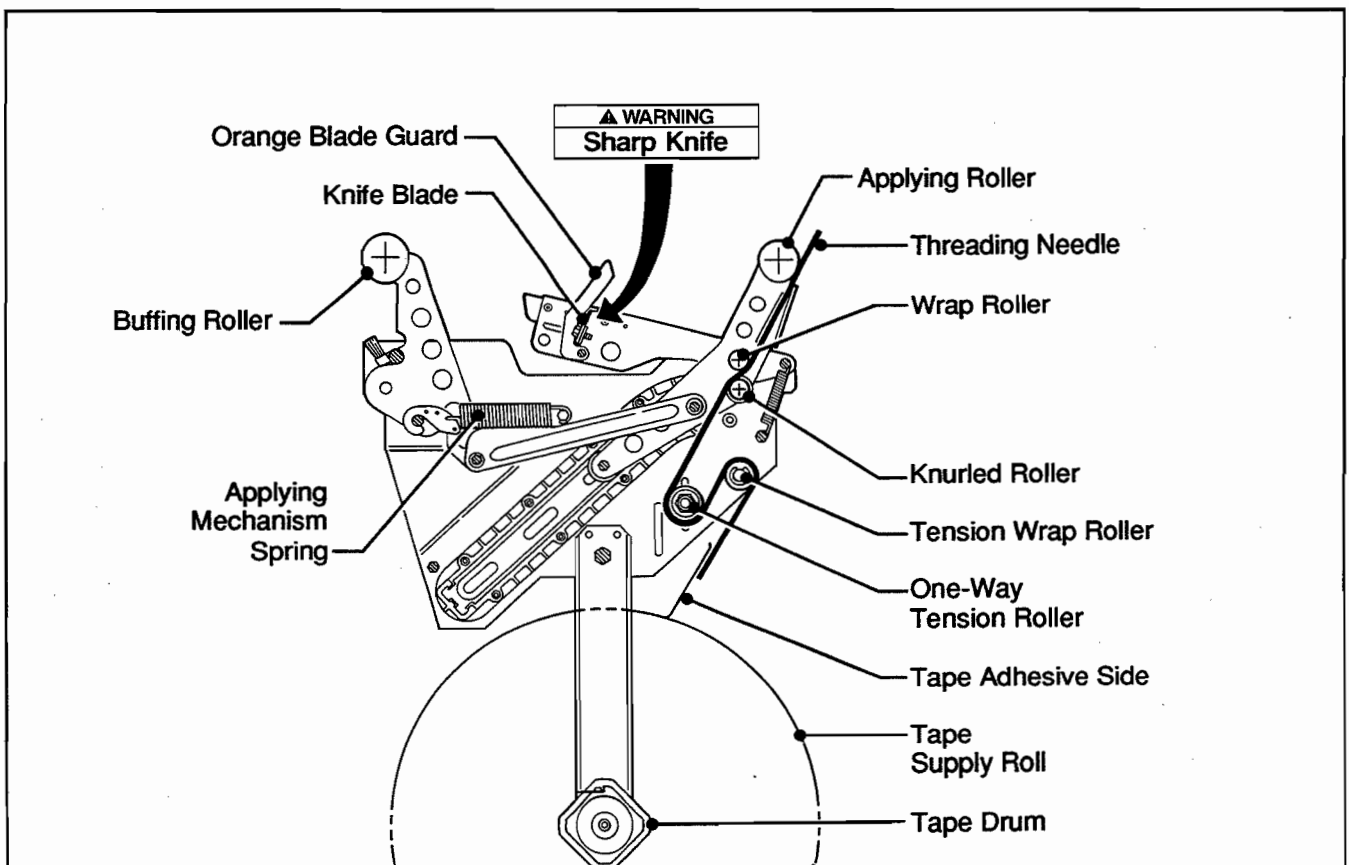

Figure 3-3 – Tape Threading Diagram, Lower Taping Head (Left Side View)
2. The lower taping head is loaded and threaded in the same manner as the upper head. Follow **Steps 1, 2 and 3** below and also refer to Figure 3-3.